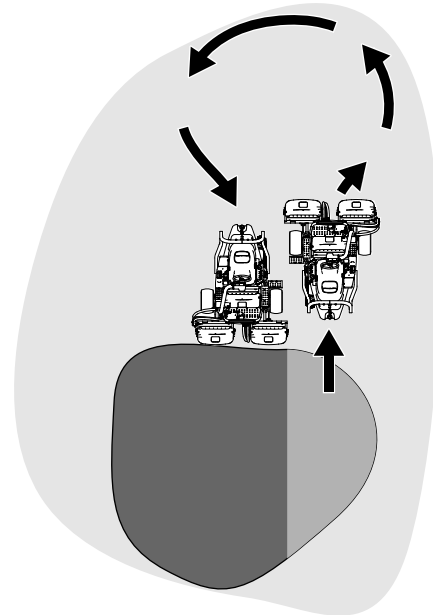

Figure 22
- To cut down on operating time and to ease the lineup for the next pass, momentarily turn the machine in the opposite direction, then turn it in the direction of the uncut portion. This movement is a tear-shaped turn (Figure 22), which quickly lines the machine up for your next pass.